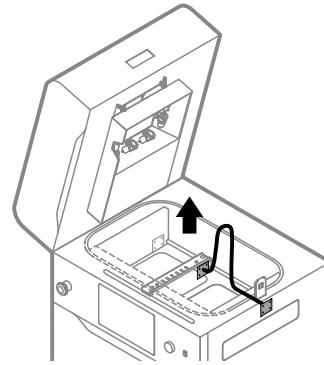

Fig. 12.14 Drag out the plate without spring above the Recoater's roller.
14. Drag out the end of the cord (without spring) above the Recoater's roller. At first the mounting plate, then the ending, through the gap between the rotary shaft and Recoater housing. Be careful not to touch the roller (fig. 12.14).